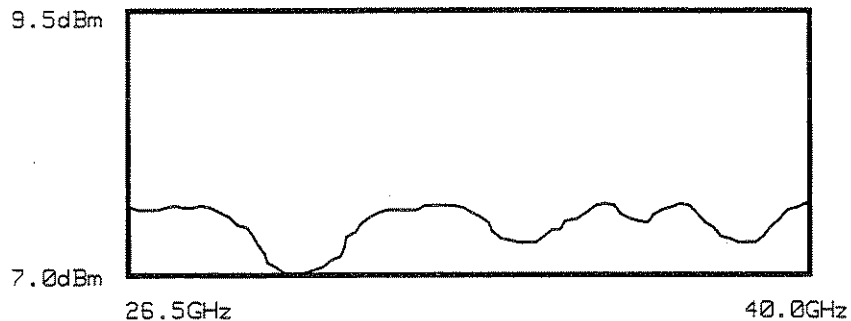

Figure 2-8. Power Flatness Response (26.5 to 40 GHz)
18. Slowly tune the frequency from 26.5 GHz to 40.0 GHz while watching the power level readings on the power meter. The displayed power level should not exceed +9.5 dBm. See Figure 2-8.